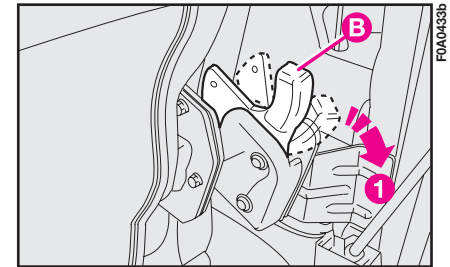

fig. 127
- release the right locking lever **B**-fig. 127 moving it to I (“released lever”); do the same on the left side then lower the seat back and tip the seat forward. This operation is made friendly by two springs. Make sure the seat is completely tipped.
- seat back anchoring levers, both right and left **B-fig. 127** must be at **I** (released); otherwise move both levers to position **I**;